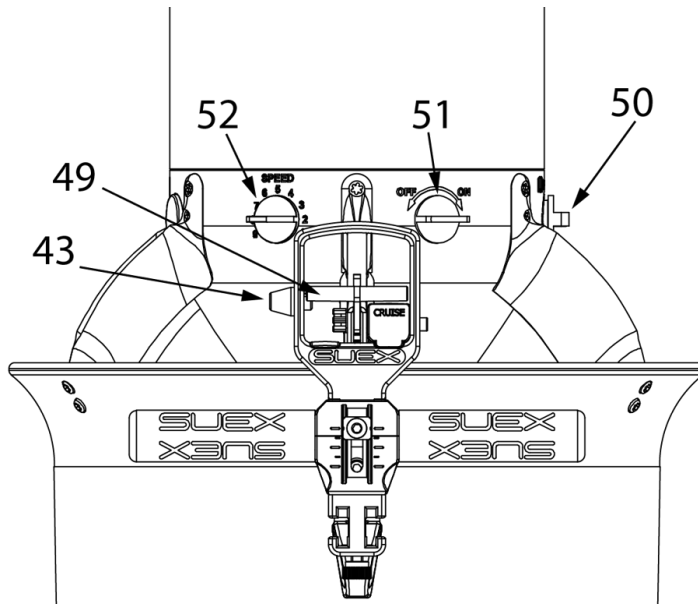

Fig 17 - Scooter Controls
the scooter operates at "first speed" (i.e., at the speed that turns out to be set on the speed selector switch (52 - **Fig 17 - on p. 16**): maintenance at this speed is facilitated by the finger rest element (48).
The speed selector switch (52 - **Fig 17 - on p. 16**) allows for precise adjustment of the scooter's speed. The speed settings are indicated by digits ranging from 1 to 9, where 1 corresponds to the minimum speed and 9 corresponds to the maximum speed.